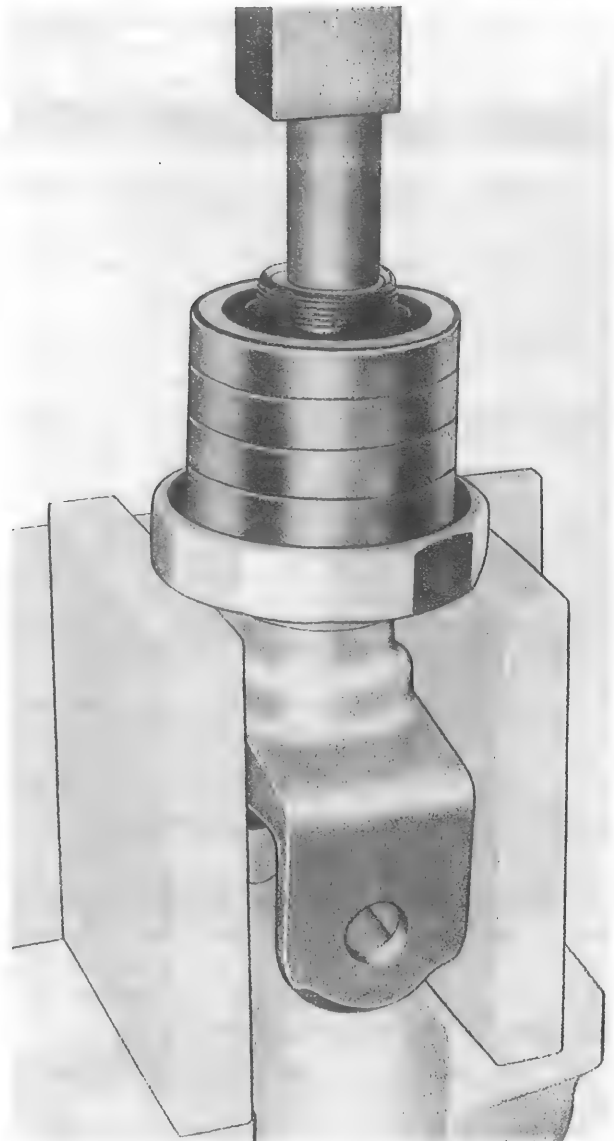

Figure 6-11. Pressing Stack Bearing Assembly from Spindle
e. Bend back tang of lockwasher (14). Remove inner nut (12) from spindle (19) with wrench, part No. S1670-10452. Remove lockwasher and plug (15) from spindle.
f. Support outer nut (18) on two blocks and press stack bearing assembly (16) and outer nut from spindle. (See figure 6-11.)